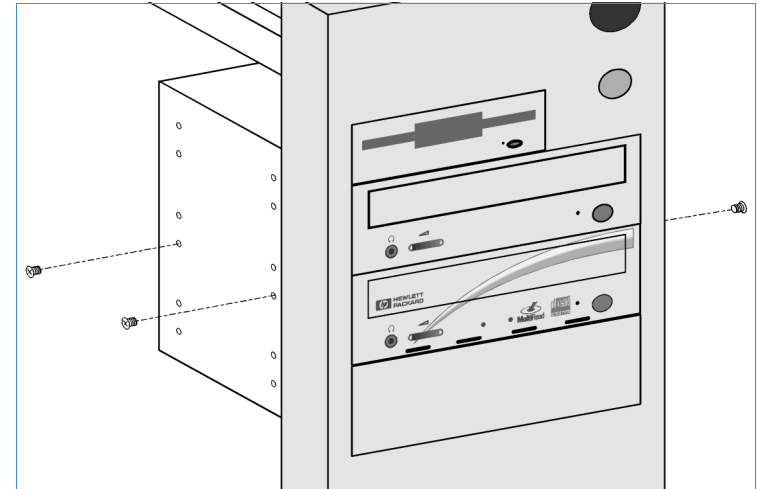

Figure 25 Securing the Drive in the Bay
17. Secure the HP drive into the drive bay with the screws (or rails, if your computer uses rails). (See Figure 25.)